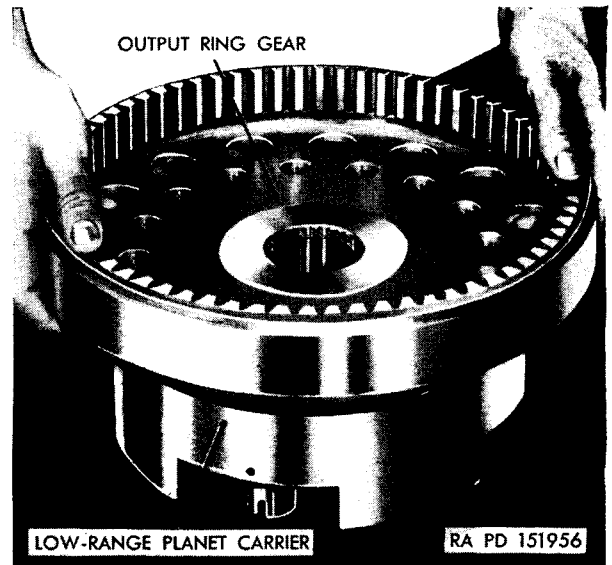
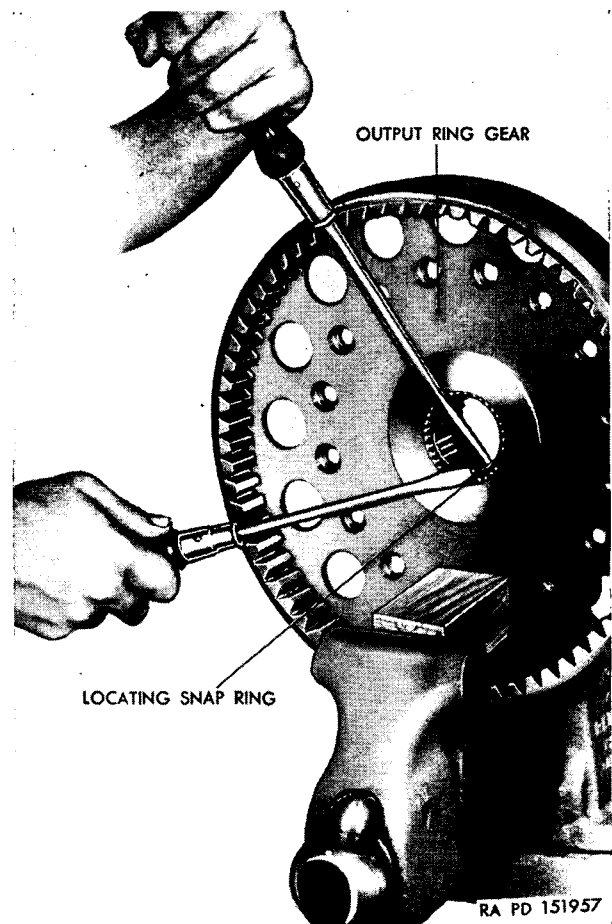

Figure 217. Removing output ring gear.
Figure 218. Removing locating snap ring.
- (2) If the output ring gear must be separated from the carrier, remove the 12 bolts, using a $\frac{3}{8}$ -inch wrench, from the output ring gear and lift it off (fig. 217). If the locating snap ring in the output ring gear is defective, remove it using two screwdrivers (fig. 218).
- (3) If the spindles must be removed from the low-range planet carrier, refer to *i*(3) through (8) above. If the spindles are not to be removed omit *i*(3), (4), and (6) above.